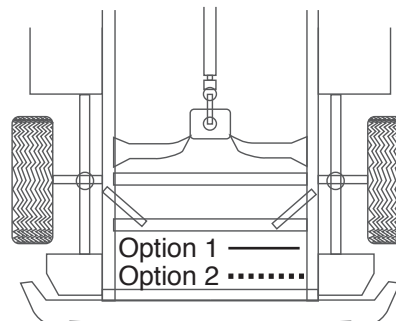

fig. 9
- Route the air line along the frame to the air fitting on the air spring (fig. 9). Keep AT LEAST 6" of clearance between the air line and heat sources, such as the exhaust pipes, muffler, or catalytic converter. Avoid sharp bends and edges. Use the plastic tie straps to secure the air line to fixed, non-moving points along the chassis. Be sure that the tie straps are tight, but do not pinch the air line. Leave at least 2" of slack to allow for any movement that might pull on the air line (fig. 9).